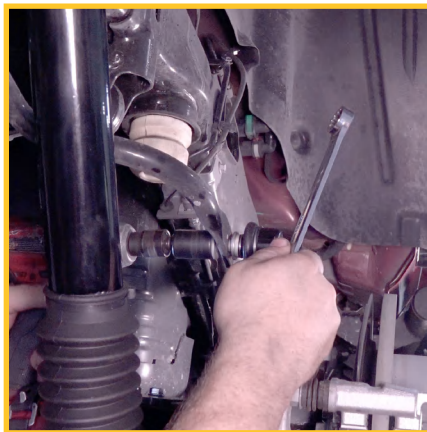

FIGURE 56
8. Install the provided new rear sway bar end links. The rear end links are the pair of longer length. Tighten to manufacturer's specifications. (FIGURES 56, 57)